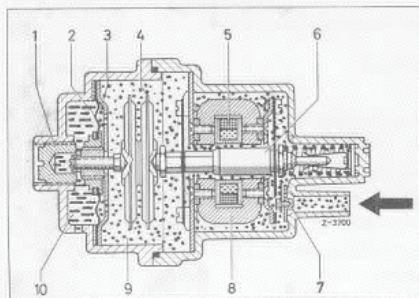

FIG. 10
1. The intake pipe PRESSURE SENSOR (Fig. 10) records the most important information - the engine load.